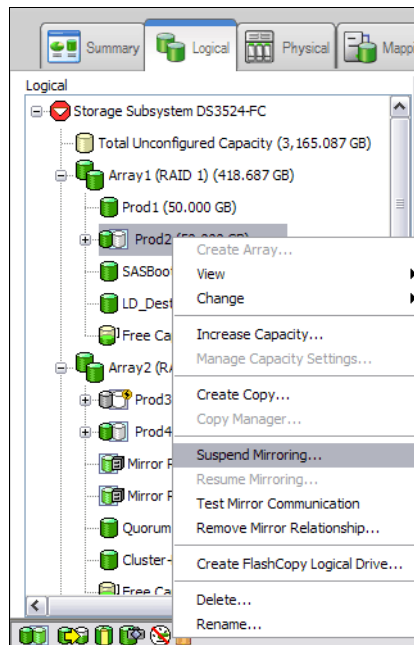

Figure 5-38 Suspend mirroring on a logical drive
1. Select the logical drive in the logical view of the primary storage subsystem. Then, select **Logical Drive** → **Remote Mirroring** → **Suspend**. (Or, right-click and select **Suspend Mirroring** from the pop-up menu.) See Figure 5-38.